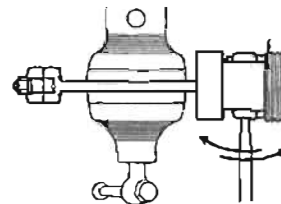

Fig. 2
- E.** Straightening is done by clamping rod in a vise and bending with bending bar which is furnished with the Quick-Check Rod Aligner. See Fig. 2.